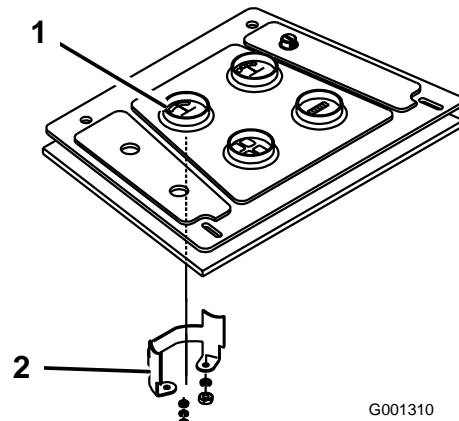

Figure 2
6. Plug the (2) sender wires to the new wire harness.
7. Disconnect all the wires from the temperature gauge (Figure 2). Note mounting position of wires on gauge.